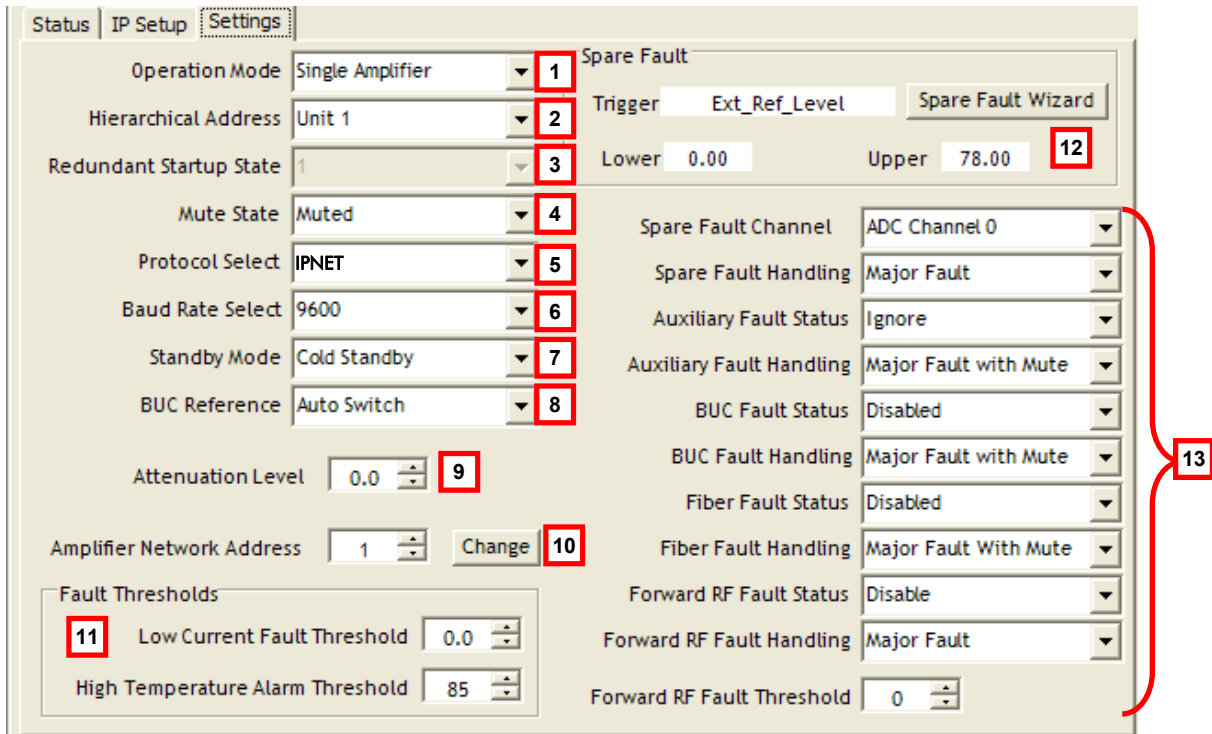

Figure 3-10: Universal M&C, Settings
Figure 3-10 shows the 'Settings' window of the Paradise Datacom Universal M&C Software. The 'Settings' window contains many of the global settings that are available in the SSPA.
- Make sure that the Protocol Select setting in the Settings tab of the Universal M&C is set to **IPNET**, as shown in **Figure 3-10**.